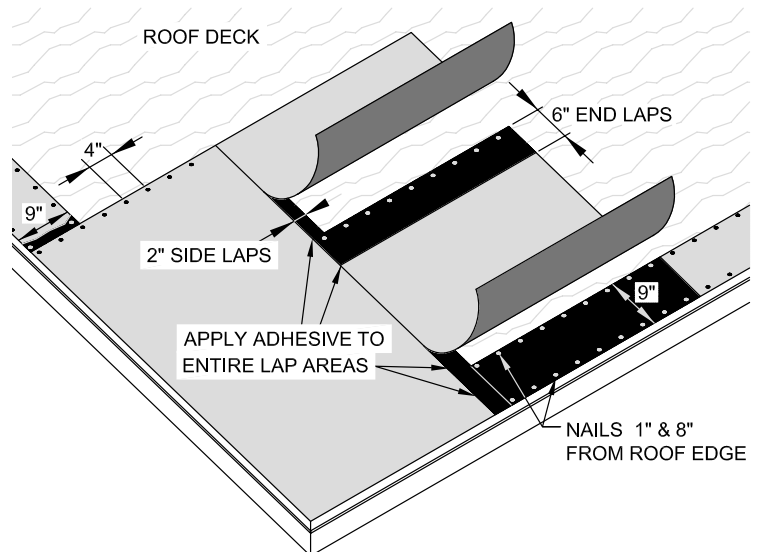

**Figure 4 - Hips and Ridges: Exposed Fastener Installation**
- i. Continue until the end of the hip or ridge is reached. **(See Figure 4)**